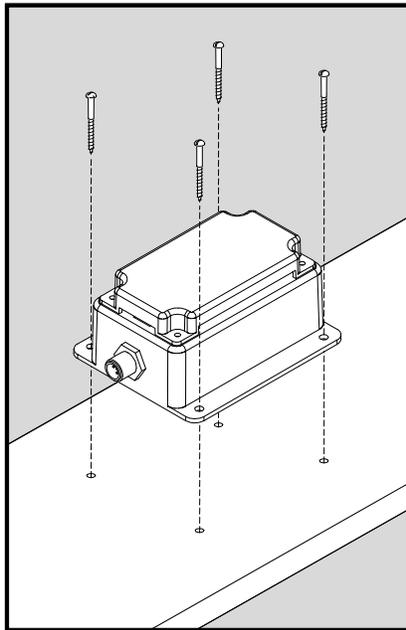

Figure 5 – Mounting the FFM100
Attach the FFM100 securely to the vessel using the included stainless steel mounting screws or other fasteners as shown in Figure 5 below. Do not use threadlocking compounds containing methacrylate ester, such as Loctite Red (271), as they will cause stress cracking of the plastic enclosure.